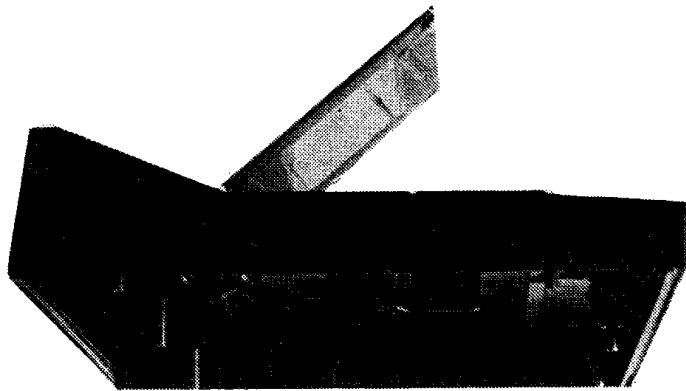

**Figure 4** **Figure 5**
**Tape speed** (Figure 4). Using a test tape, with the 3000Hz speed test track, and a frequency counter, adjust for correct speed by means of the small preset screw in the motor.